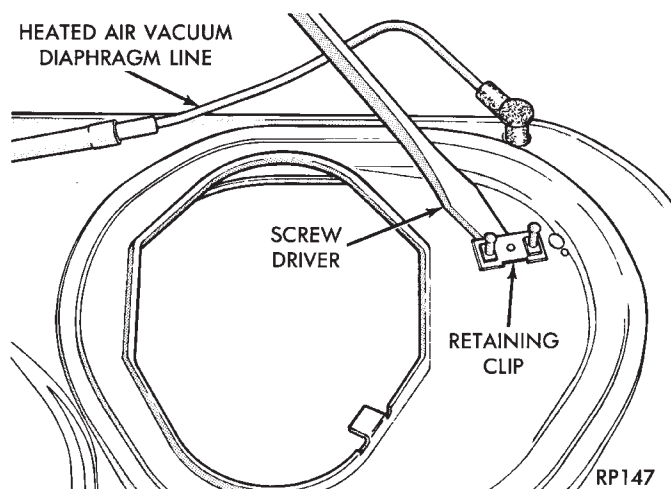

Fig. 4 Removing Sensor Clips
- (1) Remove air cleaner housing from vehicle.
- (2) Disconnect vacuum hoses from air temperature sensor. Remove and discard retainer clips, new clips are supplied with a new sensor (Fig. 4).
- (3) Remove and discard sensor and gasket.